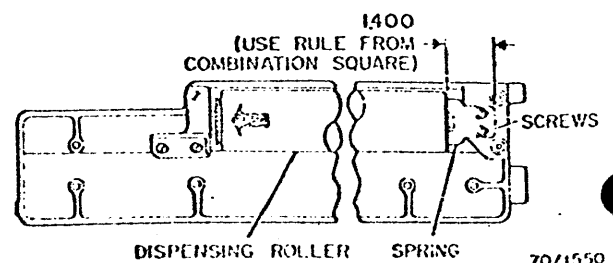

Fig. 3-196. Dispensing Roller
1. Adjust the dispensing roller as in Fig. 3-196.